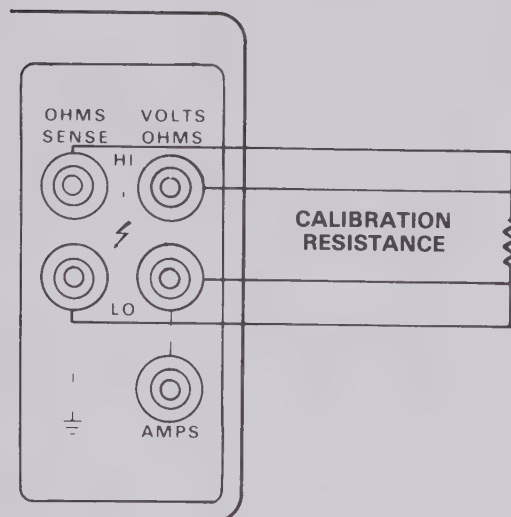

Figure 5-2. Connections for Verification of 20Ω , 200Ω , and $2k\Omega$ Ranges
3. Connect a 19Ω calibration resistor to the instrument as shown in Figure 5-2. Note that the 4-terminal configuration is used for this measurement. Place the instrument on the 20Ω range and check to see that the displayed reading is within the limits in Table 5-3.
4. Connect a 190Ω calibration resistor to the instrument as shown in Figure 5-2. Switch the instrument to the 200Ω range and see that the displayed reading is within the limits set in Table 5-3.
5. Connect a $1.9k\Omega$ calibration resistor to the instrument as shown in Figure 5-2. Switch the instrument to the $2k\Omega$ range and check to see that the reading is within prescribed limits.
2. Connect the DC current calibrator to the Model 195A as shown in Figure 5-2. The HI side of the calibrator output should be connected to the AMPS terminal and the LO side calibrator output should be connected to the VOLTS OHMS LO terminal. Make sure the rear panel INPUTS switch selects the front panel terminals. Set the calibrator output to 0.0000 and enable the zero mode.